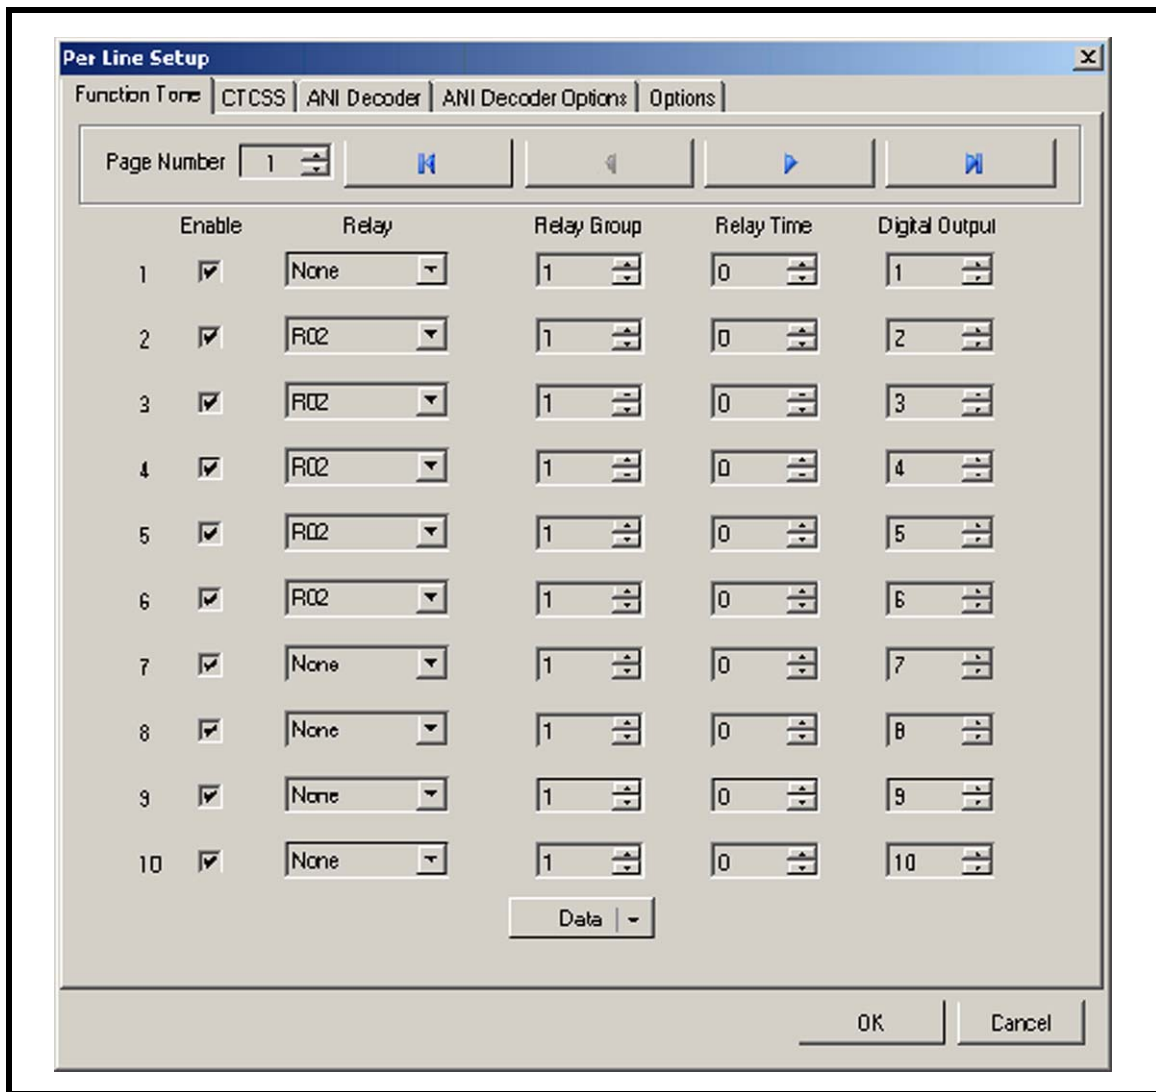
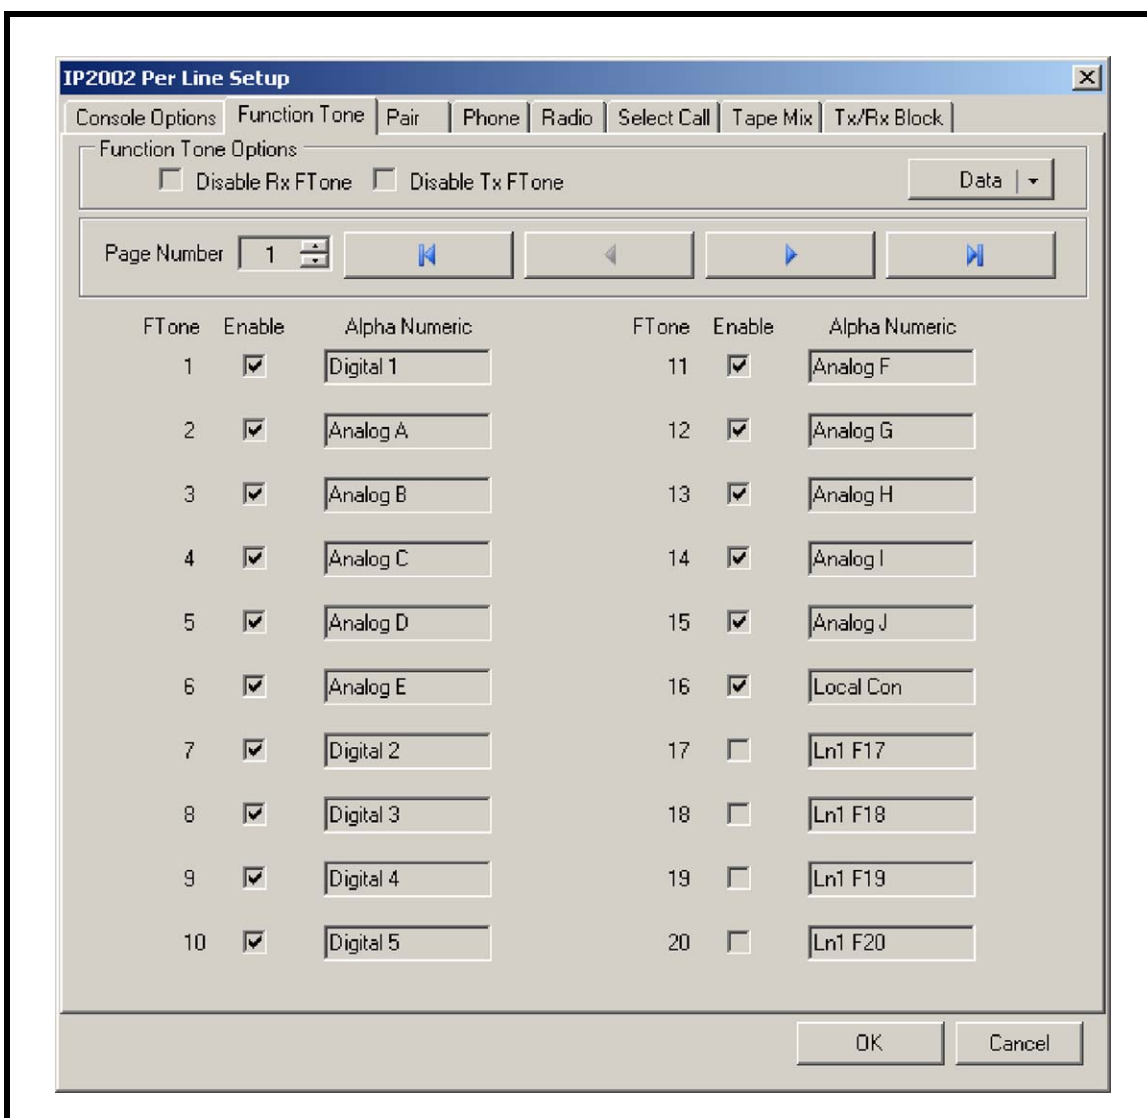

FIGURE 3. IP-223 Function Tone Page—Per Line Setup
FIGURE 4. IP-2002 Per Line Setup—Function Tone Page
From the example shown in Figure 3:
- A direct association between function tones in the IP2002 and the IP-223 is established by configuring per the examples shown in this application note. See Figure 3 and Figure 4.
- Function tone 16 is assigned as *Local Con* because BCD command 16 is translated as binary output 10000. Only the four (4) least significant digits are sent to the radio as BCD channel change commands, so the XPR receives binary input 0000. This signifies no control, and channel change functionality is routed to the radio front panel.